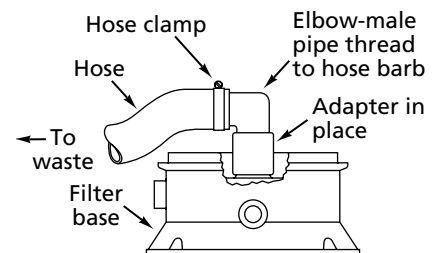

Figure 18
1. vacuuming pool, putting water to waste (See Figure 18, Page 9);
2. Thread a 1½" 90° PVC elbow into female adapter on filter base (See Figure 18).
3. Attach hose to elbow as shown in Figure 18; run hose to waste water disposal area.